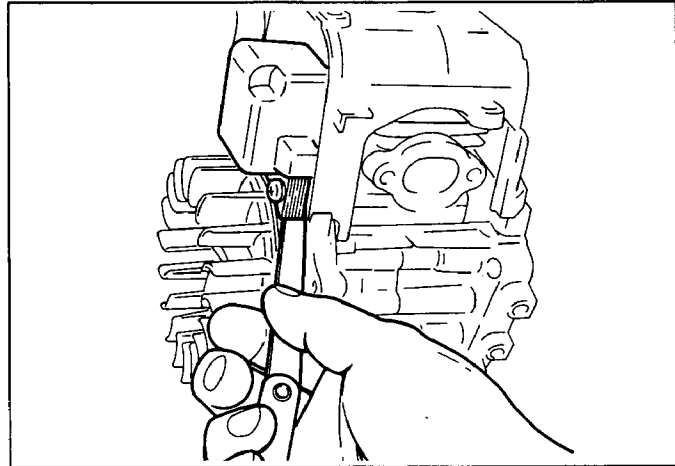

Fig. 18
- (4) Adjusting air gap between ignition coil and flywheel. (See Fig. 18.)